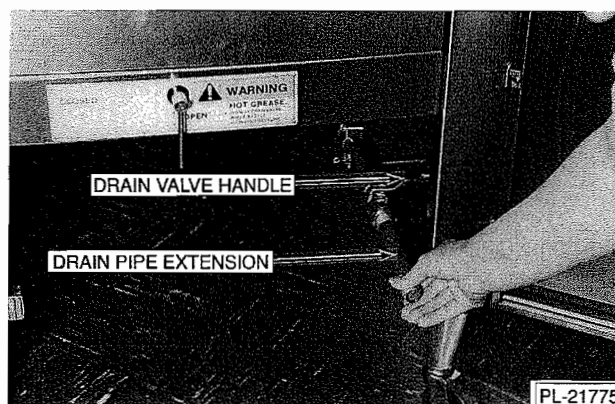

Fig. 19
1. Attach the drain pipe extension (supplied) (Fig.19), and drain the exhaust tank by turning the handle clockwise.